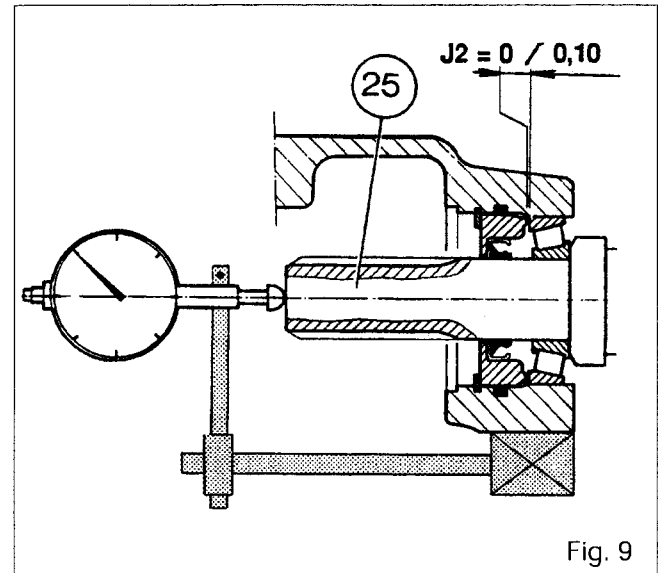

Fig. 9
61. Position the tip of a dial gauge on the end of the shaft **(25)** (Fig. 9).